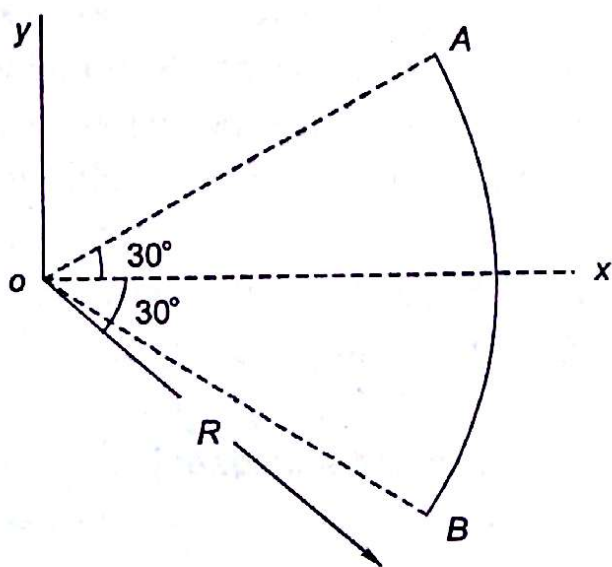

Fig. 5.20
5.7 What is \bar{x} of circular arc A, subtending an angle of 60° at O (Fig. 5.20)?